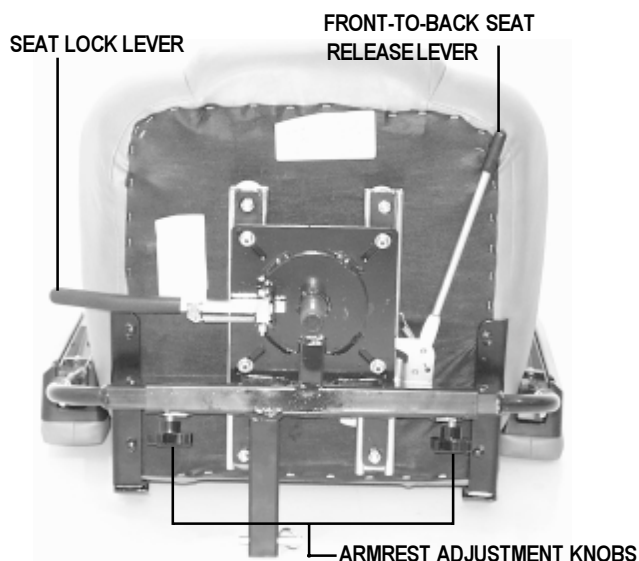

Figure 13. Seat Adjustments
1. Reach under the seat with your left hand and pull the front-to-back seat release lever outward. See figure 13.
1. Push down on the seat lock lever to unlock the seat. See figure 13.
1. Turn the armrest adjustment knobs at the back of the seat frame counterclockwise to loosen. See figure 13.